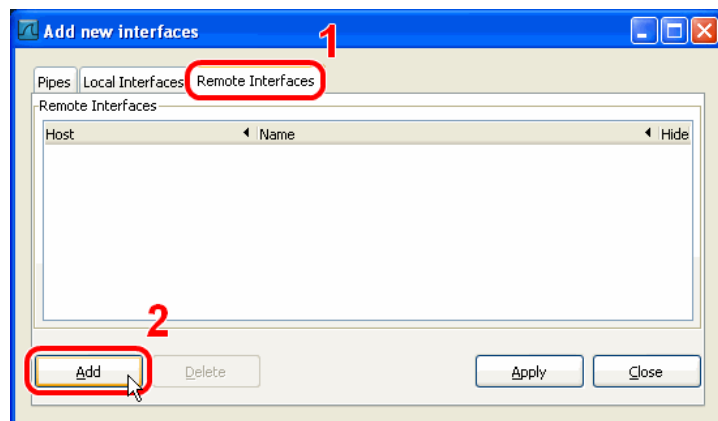

Figure 77: Wireshark Add New Interfaces Dialog.
- Select the **Remote Interfaces** tab and click **Add** as shown in Figure 77.